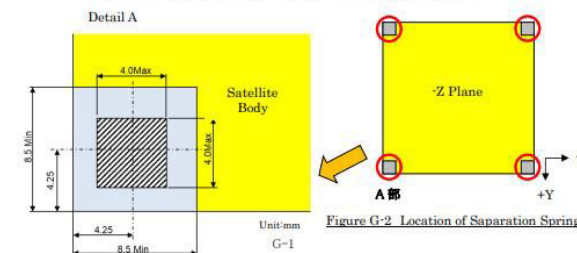

Figure G-2 Location of Separation Spring
- (3) The mounting position of the separation spring shall be such that the tip of the spring is within the shaded area shown in Figure G-2.
- (4) If a deployment switch and separation spring are to be installed, the total spring force of the separation spring and the deployment switch on the -Z side shall be 1.08 to 5.3 [N]. (For the deployment switch, refer to Section 2.2.1.)